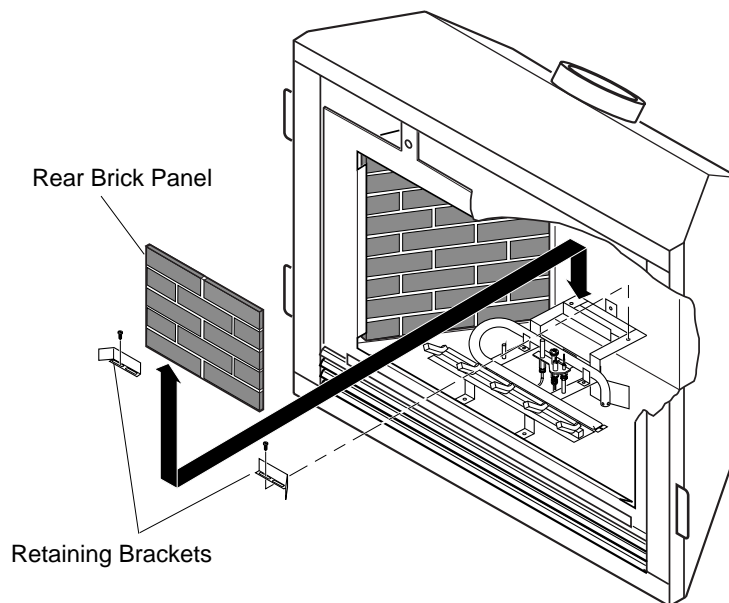

Figure 47 - Installing Rear Brick Panel and Retainer Brackets
7. Install rear brick panel. Rest bottom edge of panel on back edge of grate (see Figure 47).